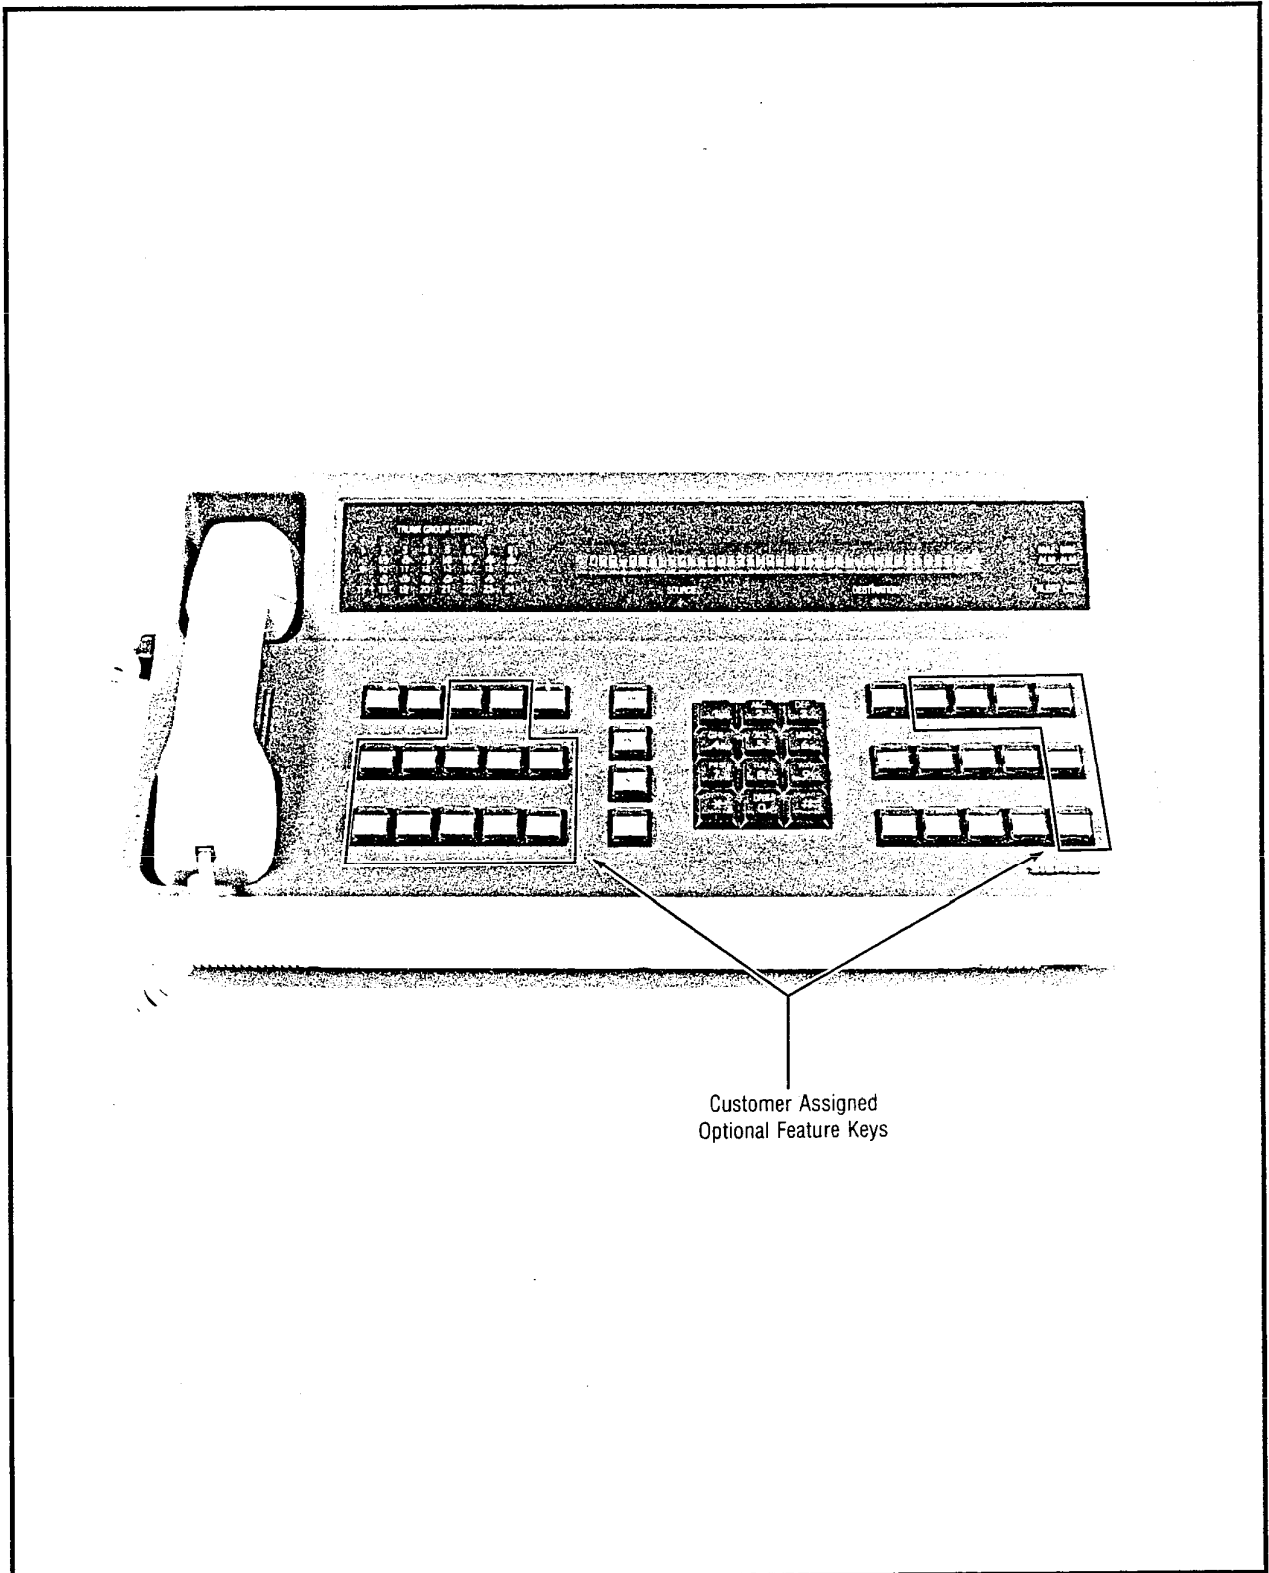

Figure 3.02 Optional Feature Keys
**3.09 Optional Feature Keys.** The Optional Feature keys, shown in Figure 3.02, are a group of 18 vacant keys which may be assigned, via CMU procedures. These optional feature keys are described below according to their classification.